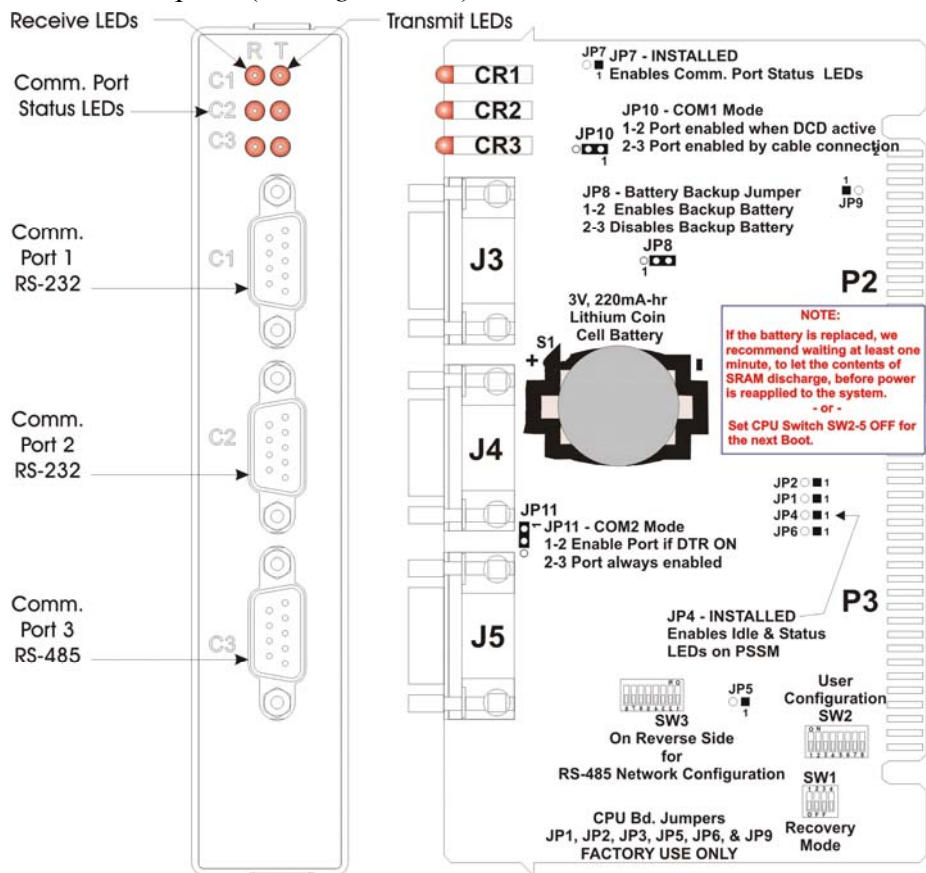
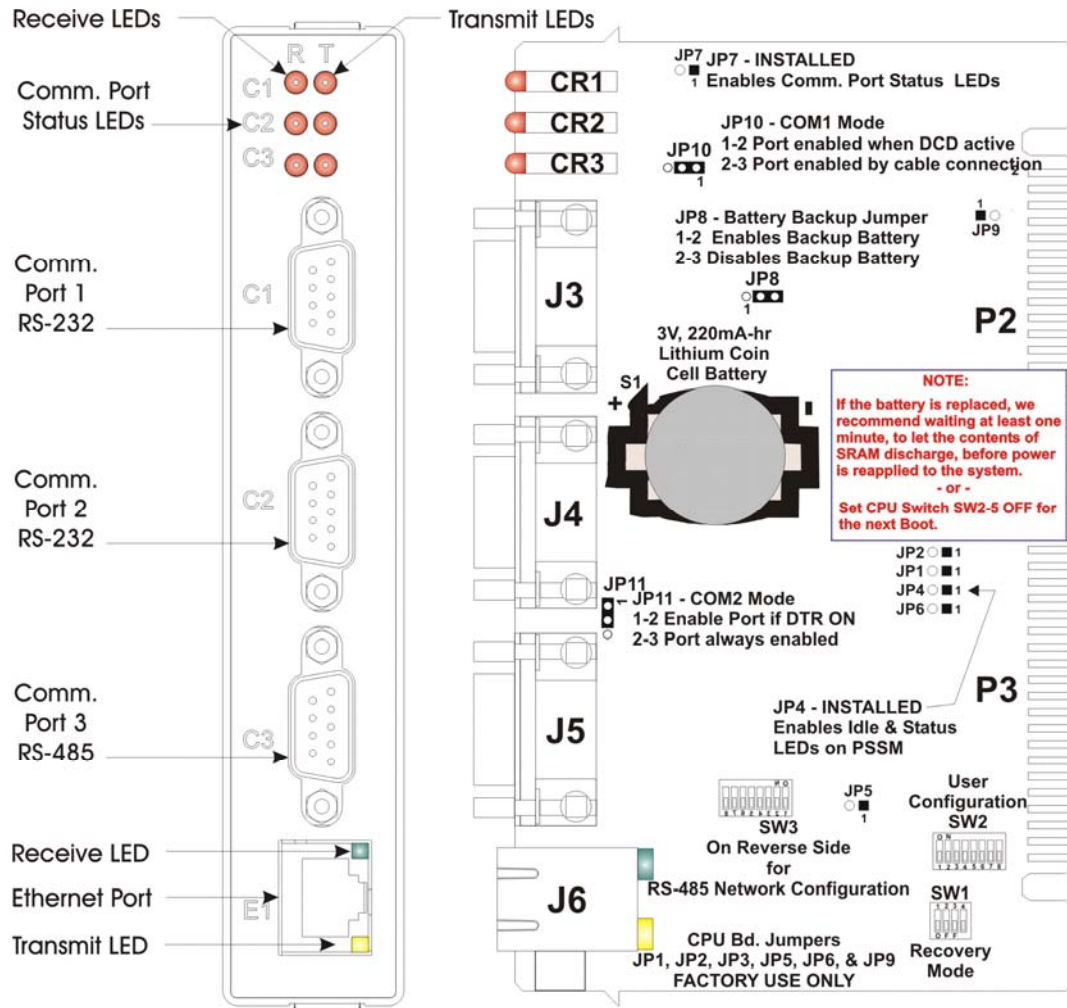
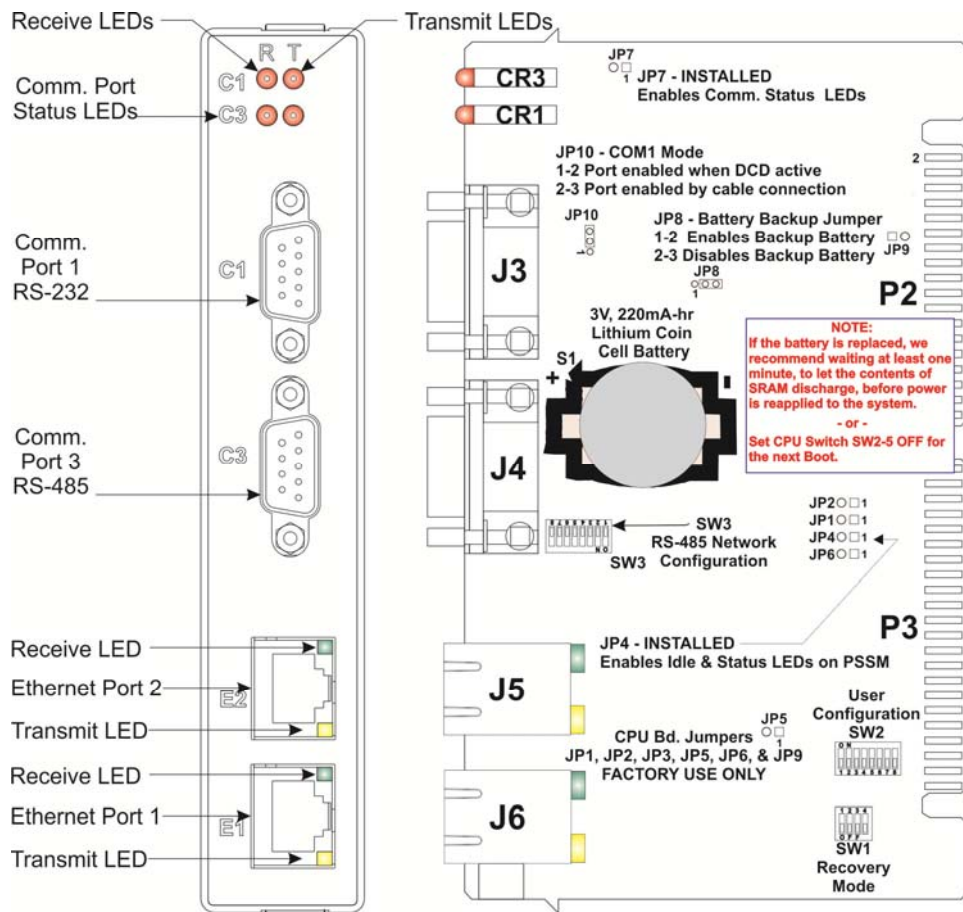

Figure 2-13. CPU Module with Three Serial Ports
Figure 2-14. CPU Module with Three Serial Ports and One Ethernet Port
Figure 2-15. CPU Module with Two Serial and Two Ethernet Ports
- CPU with two RS-232 serial ports, and one RS-485 serial port (see *Figure 2-13*)
- CPU with two RS-232 serial ports, one RS-485 serial port, and one Ethernet port (see *Figure 2-14*)
- CPU with one RS232 serial port, one RS-485 serial port, and two Ethernet ports (see *Figure 2-15*)
Each CPU module contains a number of jumpers (labeled with JP n) when n in the jumper number. See *Figure 2-13*, *Figure 2-14*, or *Figure 2-15*) to locate the jumpers.
Before you install the CPU module, you must determine the settings for three banks of DIP switches. Refer to *Figure 2-13*, *Figure 2-14*, or *Figure 2-15* for the location of the DIP switch banks on each CPU module. Refer to *Tables 2-3* through *2-5* for DIP switch setting values.
- If the CPU module has two RS-232 ports and one RS-485 port (as in *Figure 2-13*), the RS-232 ports are COM1 and COM2.
- If the CPU module has one RS-232 port and one RS-485 port (as in *Figure 2-15*), the RS-232 port is COM1.